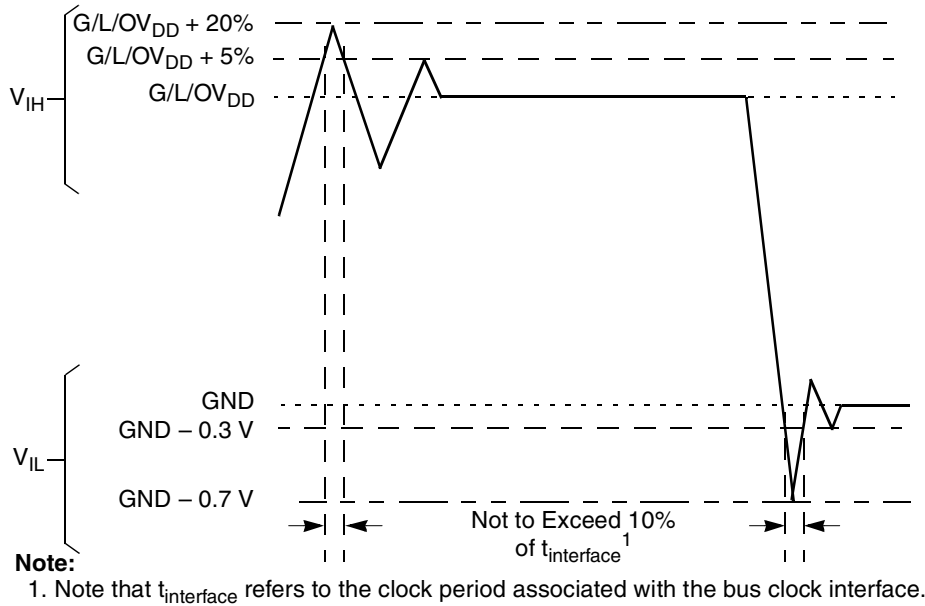

Figure 2. Overshoot/Undershoot Voltage for  $GV_{DD}/OV_{DD}/LV_{DD}$
- (M,L,O) $V_{IN}$  and  $MV_{REF}$  may overshoot/undershoot to a voltage and for a maximum duration as shown in Figure 2.
Figure 2 shows the overshoot and undershoot voltages at the interfaces of the device.